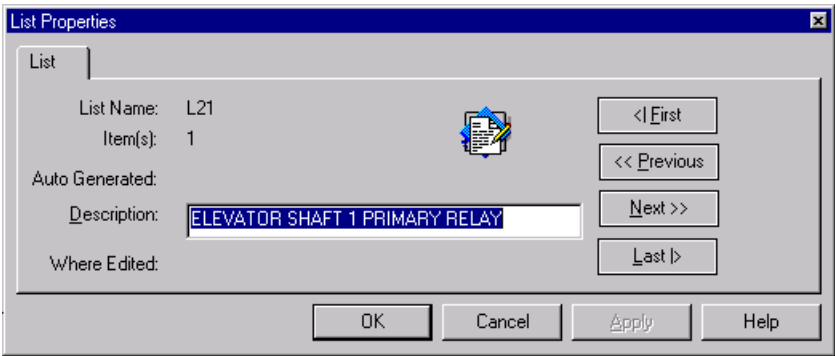

Figure 8-14. Elevator Recall Description Property
1. Click on the Elevator Recall tab at the bottom of the List Window. Double click on the appropriate Elevator Recall list, and a screen similar to the one shown in Figure 8-14 appears.